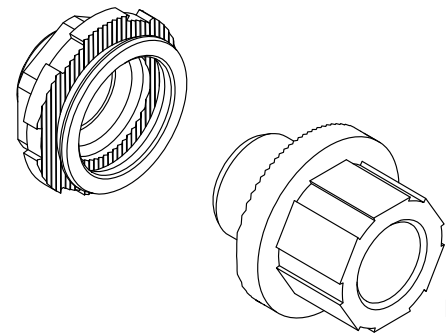

Fig. 1
3. **For XH option**, factory supplied hub (see fig. 1) to be installed and sealed to housing by others at power entry hole.